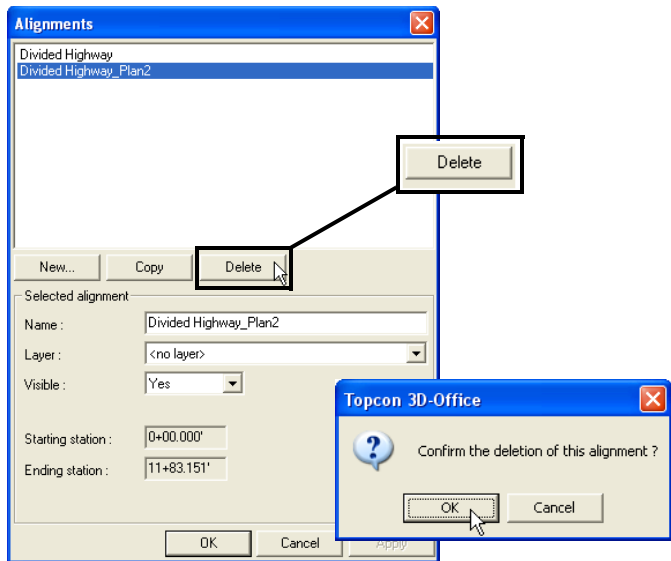

Figure 6-24. Delete Alignment
1. On the **Alignments** dialog box, select the alignment to delete and press **Delete** (Figure 6-24).
2. Press **OK** to confirm the deletion (Figure 6-24).